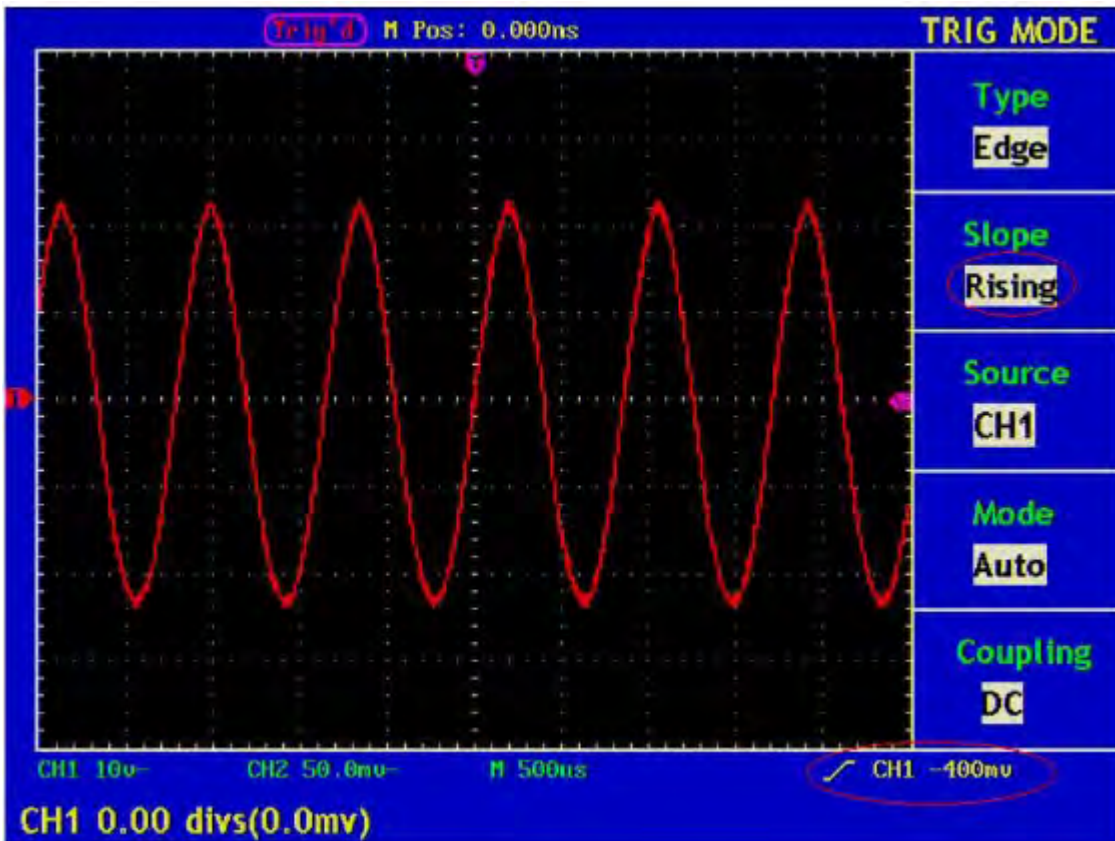

Fig. 28 Wave Form Triggered on the Rising Edge
6. Press the **F5** menu selection button and choose DC for Coupling. The display in the screen is as Fig. 28.